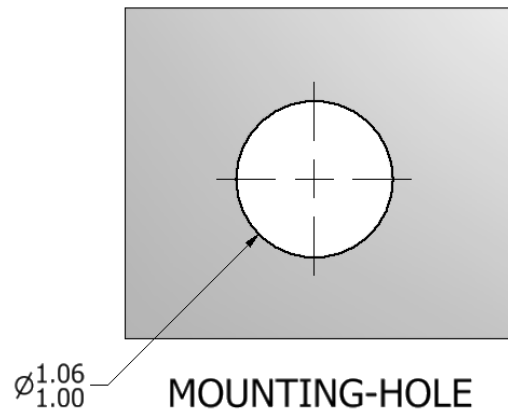

Figure 1
2. Cut or drill a 1-inch hole through mounting surface (Fig 1).